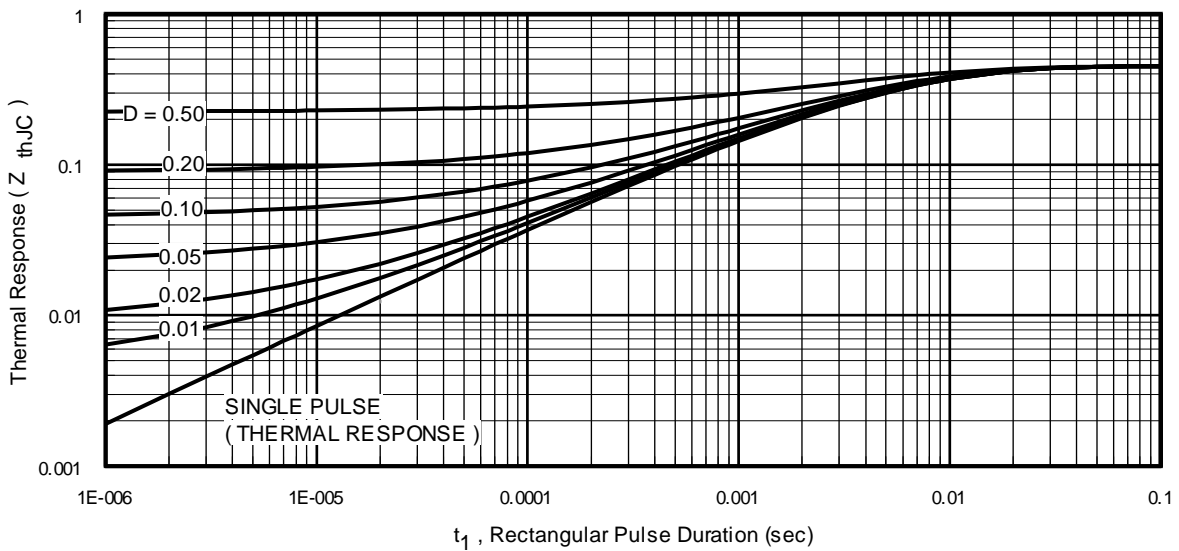

Fig 11. Maximum Effective Transient Thermal Impedance, Junction-to-Case
- ① Repetitive rating; pulse width limited by max. junction temperature. (See fig. 11).
- ② Limited by T_{Jmax} , starting $T_J = 25^\circ\text{C}$, $L = 0.24\text{mH}$, $R_G = 25\Omega$, $I_{AS} = 75A$, $V_{GS} = 10V$. Part not recommended for use above this value.
- ③ $I_{SD} \leq 75A$, $di/dt \leq 220A/\mu s$, $V_{DD} \leq V_{(BR)DSS}$, $T_J \leq 175^\circ\text{C}$.
- ④ Pulse width $\leq 1.0\text{ms}$; duty cycle $\leq 2\%$.
- ⑤ $C_{oss\ eff.}$ is a fixed capacitance that gives the same charging time as C_{oss} while V_{DS} is rising from 0 to 80% V_{DSS} .
$Z_{thJC}(D, t_{av})$ = Transient thermal resistance, see figure 11)